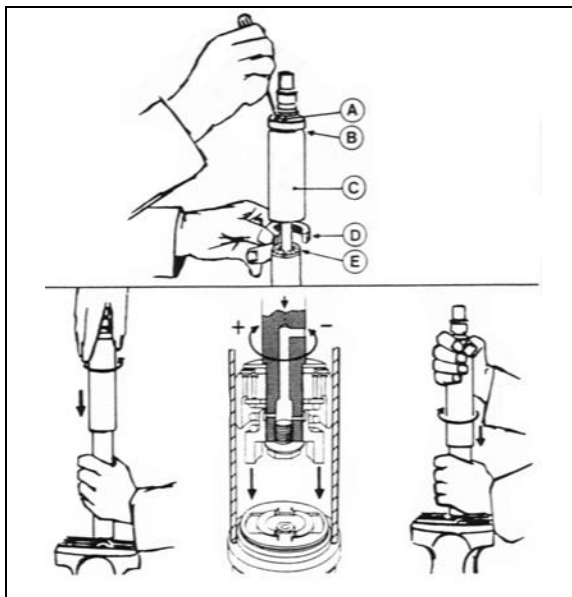

FIGURE 23: DAMPER
To adjust opening and closing cycle speed on damper (Figure 23):
felt that the cams of the adjusting nut engage in the recesses of the foot valve assembly (Figure 23).
In figure 23, if there is an indentation (B) in the dust cap (C) and the cover shows two holes (A), the damper is fitted with a bump rubber (D). If so, fully extend the damper and insert a round bar or screwdriver through the holes. Push the bump rubber down and remove. Remove the split plastic collar (E) (if fitted) from the piston rod.
Where a bump rubber was installed, refit same inside the dust cap and by fully closing the damper, the rubber will seat again at top of the dust cap. Refit the split plastic collar E (Figure 23).